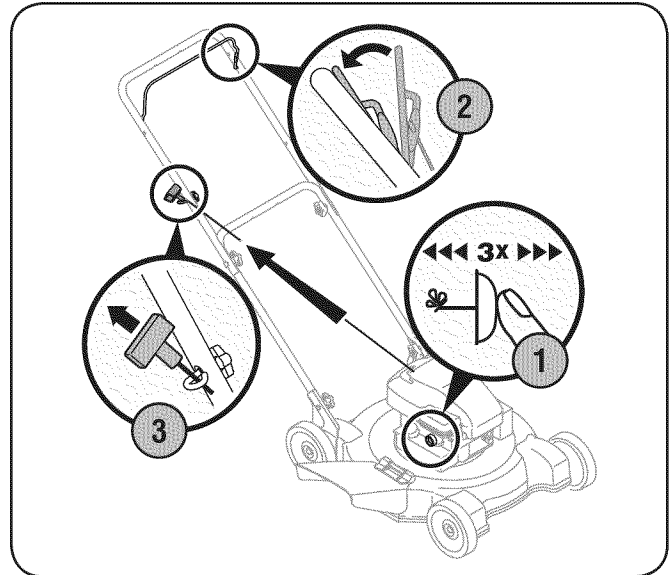

Figure 5-1
1. When starting the engine for the first time, push primer (if equipped) five times. For all future starts, push the primer three times. See Fig. 5-1. Do not prime to restart a warm engine.
2. Standing behind the mower, squeeze the blade control against upper handle. See Fig. 5-1.
3. Holding these two handles together firmly, grasp recoil starter handle and pull rope out with a rapid, continuous, full arm stroke. See Figure 5-1. Keeping a firm grip on the starter handle, let the rope rewind slowly. Repeat until engine cranks. Let the rope rewind each time slowly.